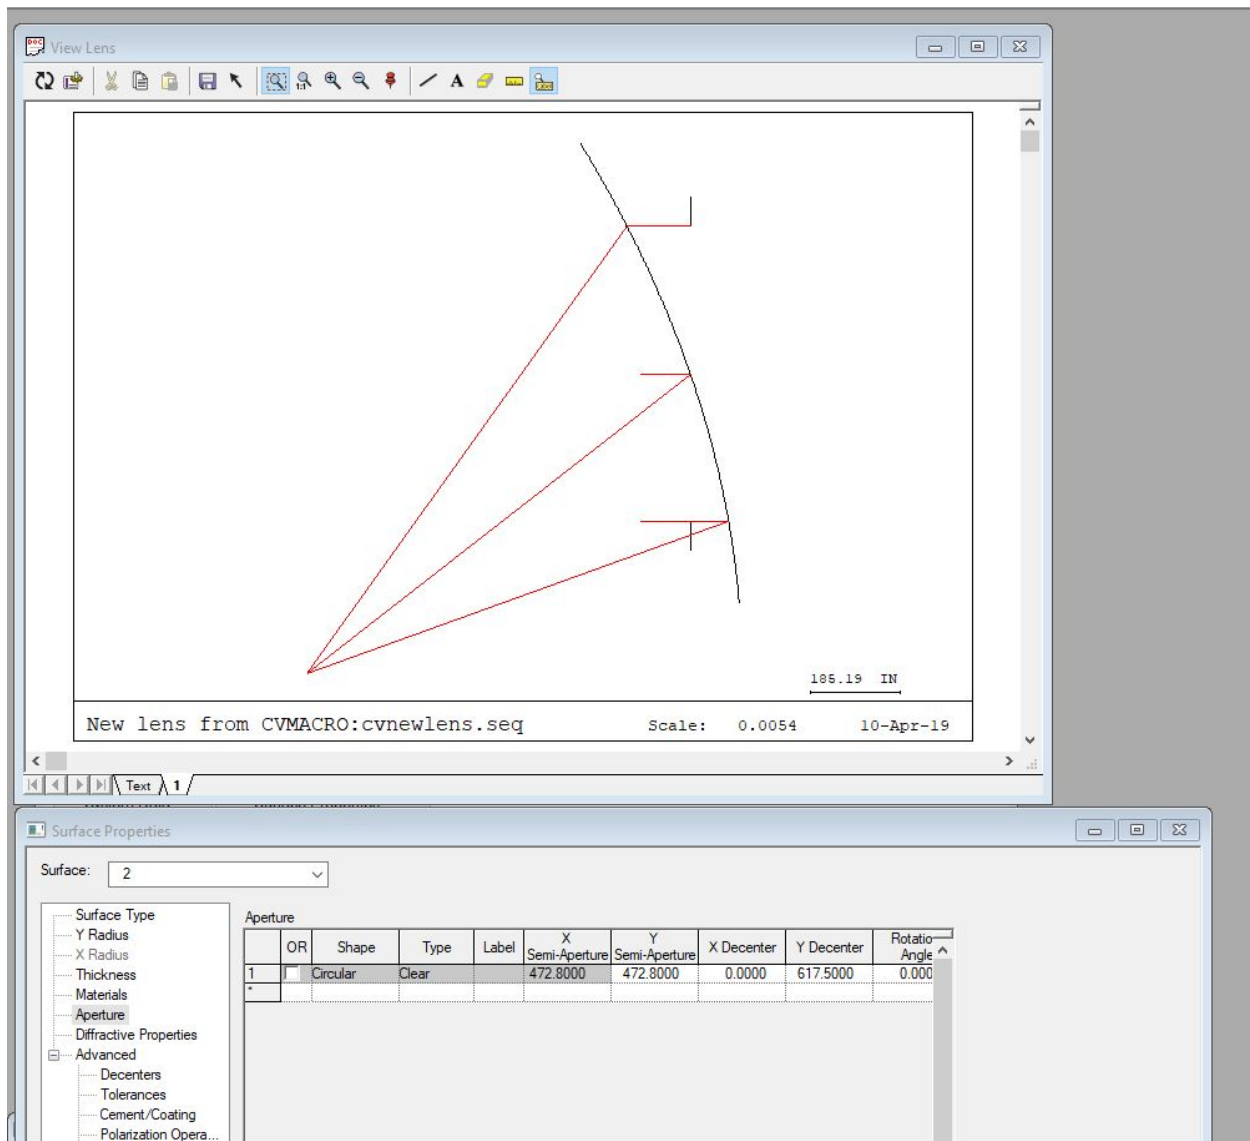

Figure 2
3. Sometimes it is necessary to have a user-defined aperture rather than allowing Code V to assign a value, and this happens to be the case for surface 2. Within Surface Properties for surface 2, select a clear, circular aperture with the Y Semi Aperture equal to 472.8. Enter 617.8 for the Y Decenter value. Note that we do not enter -617.5 due to the way the coordinate system operates in Code V. Print a picture similar to Figure 2. Turn this in.